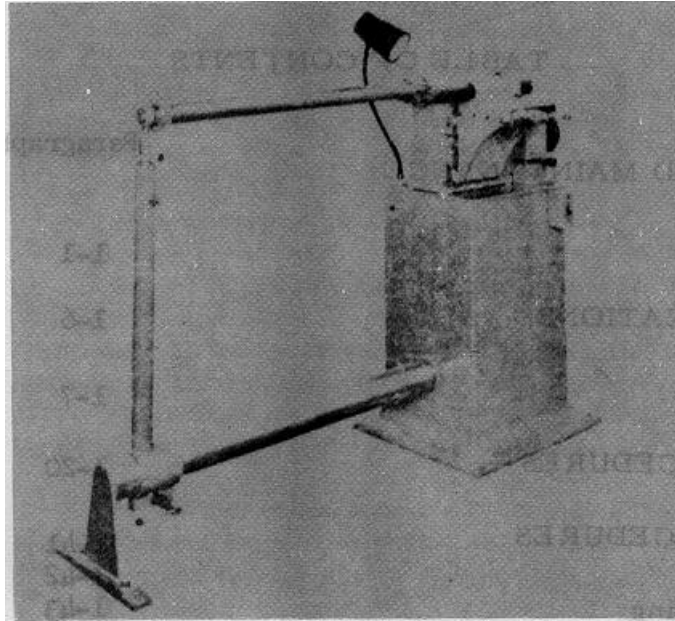

Fig. 1-1. BRAKE DRUM LATHE
- 1-2. The Star Brake Drum Lathe, Model 1400 is designed to put a smooth accurate finish on used or unfinished drums. (See Figure 1-1)